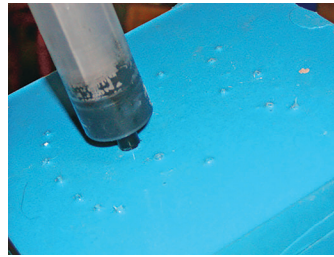

Figure 5: Urethane being injected into RTV mold.
2.1.3.1. Mix two-part urethane materials and pour (or inject) into mold (Figure 5).